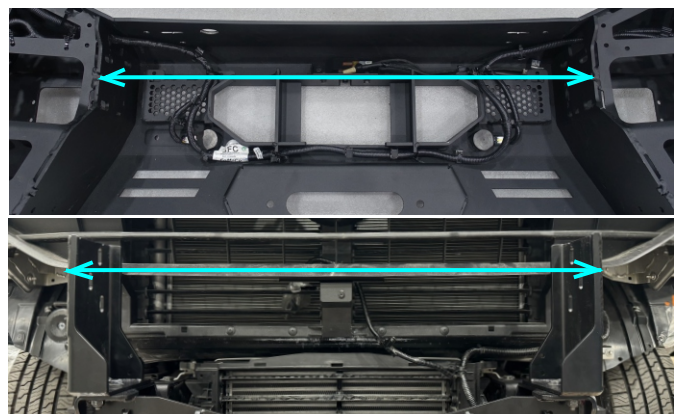

Fig.44
44. Measure the distance of bumper body (item 12). Set up the brackets according to the (measured distance - 2 mm) (fig.44).